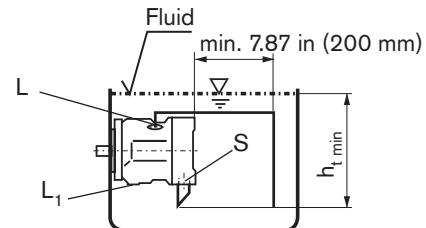

Fig. 3
a) If the min. fluid level is above the top of the pump: plug port " L_1 ", " L " and " S " open; it is recommended to pipe " L " and connect a suction pipe to " S " (see fig. 3).